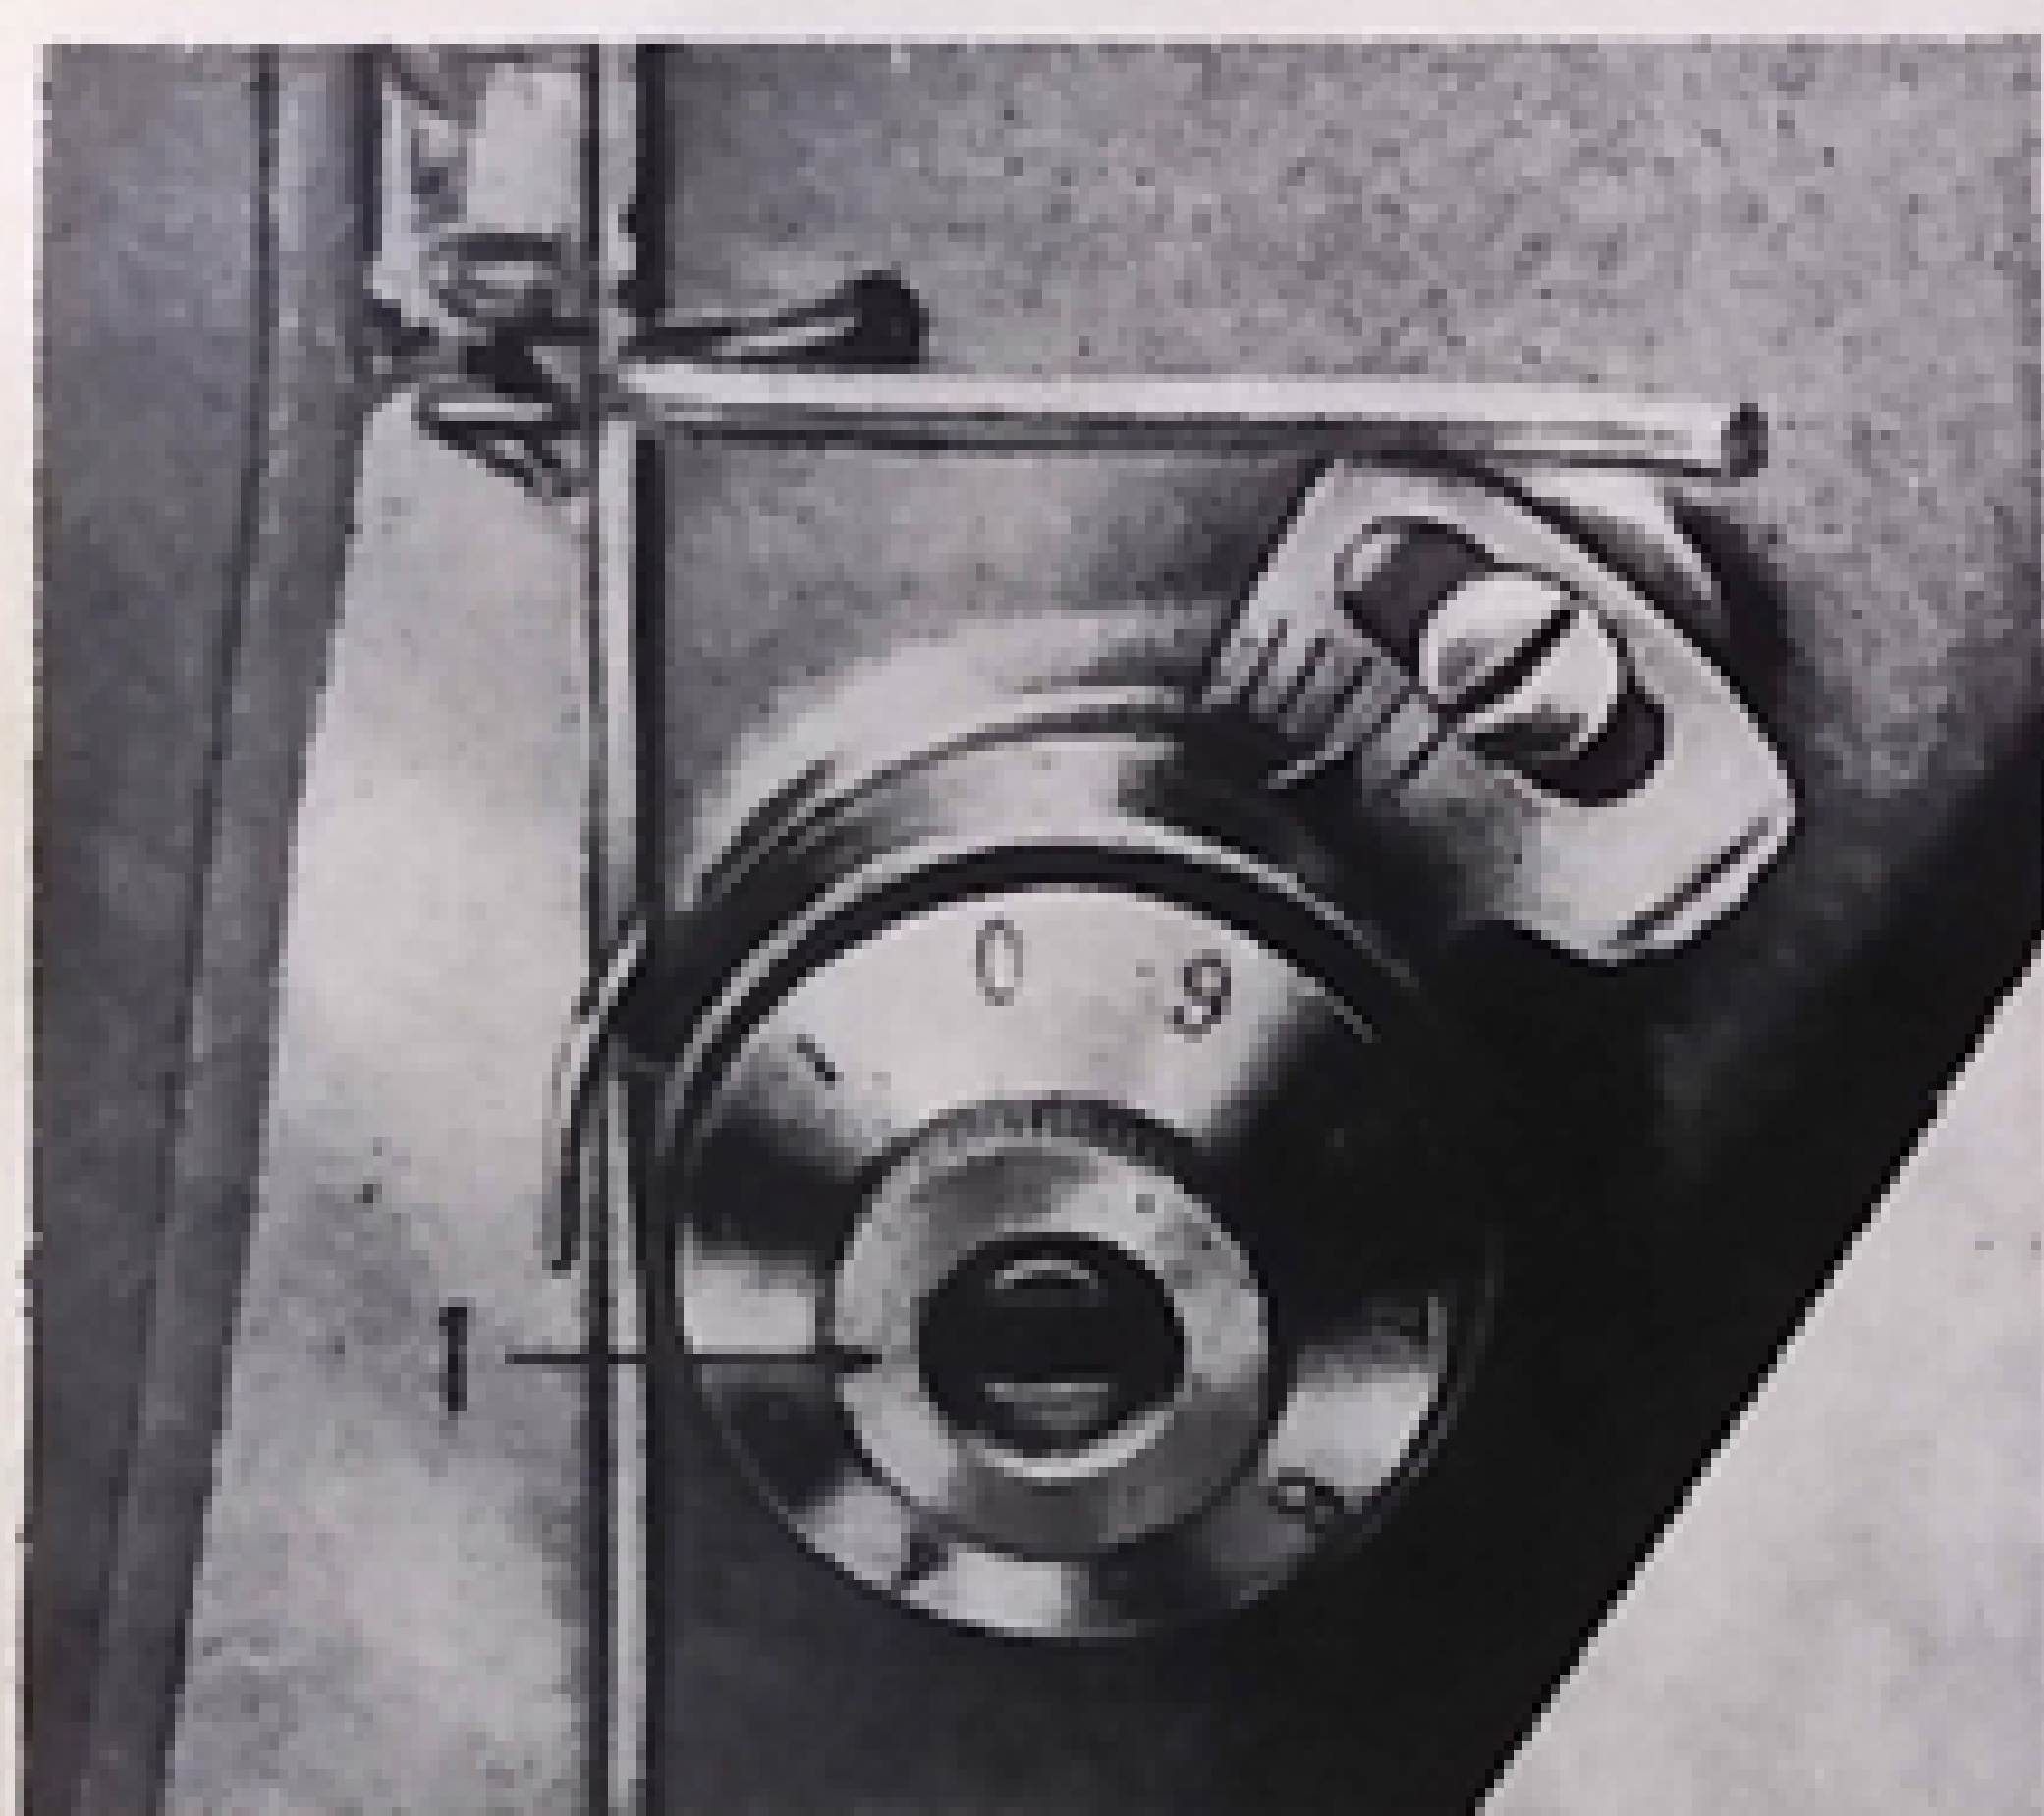

Fig. 10
The right tension for average sewing is 3 or 4. To regulate SELECT-O-MATIC tension, merely turn the dial (1) as shown in Fig. 10. If it is turned right, the tension will be